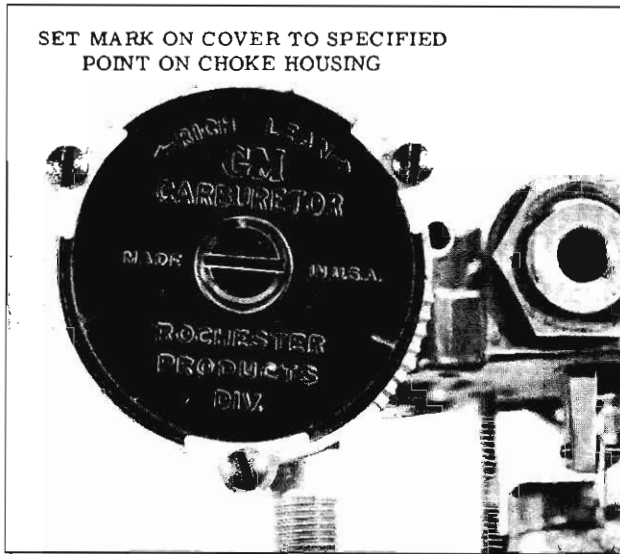

Fig. 4-141 Choke Cover Index Mark
7. Rotate thermostatic cover counterclockwise until the choke valve begins to close and continue in rotation until the proper index marking is aligned as specified. (Fig. 4-141)